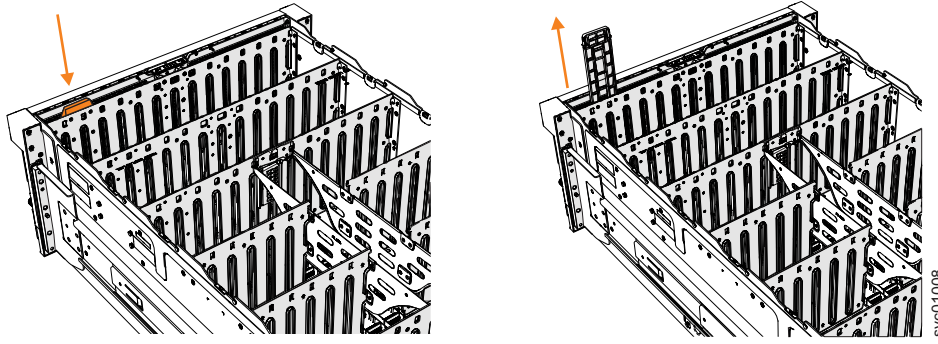

Figure 74. Removing the display panel assembly
3. Press the release tab at the top of the display panel assembly, as shown in Figure 74 on page 220.